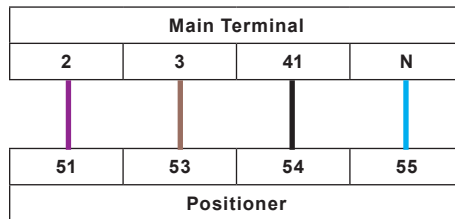

Fig. 15 Positioner Installation Terminal Diagram
- Connect the DE wiring harness as indicated in Fig. 15